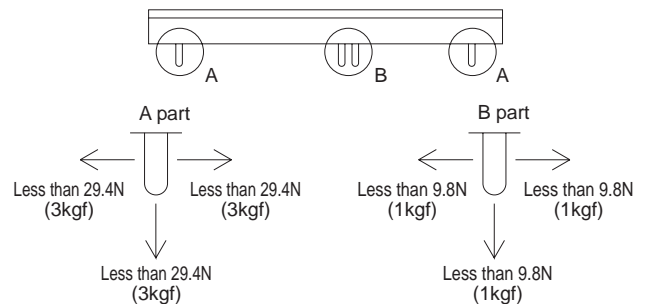

Fig.6.1 Stress onto the pins
- When too much stress is applied to the pins of the power supply, the internal connection may be weakened. As shown in Fig.6.1 avoid applying stress of more than 29.4N(3kgf) on the input pins/output pins(A part) and more than 9.8N(1kgf) to the signal pins(B part).